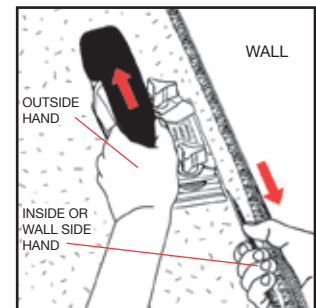

FIG. 11
3. Push the trimmer along the wall with your outside hand. Using your inside, or wall-side hand, pull the carpet being trimmed (see fig. 11). The pulling tension on the cut-off piece makes trimming easier.